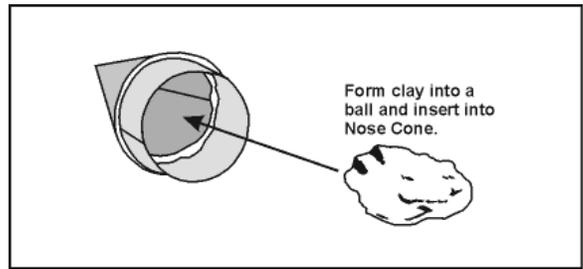

Figure 18
19. Taking the **Clay Weight**, roll it into an irregular ball and insert into the tip of the Nose Cone, as shown in **Figure 18**. **NOTE: Do NOT omit this added weight. This model rocket will NOT be stable without this added weight!** To verify the proper amount of nose weight, place the Nose Cone onto the Body Tube and balance it on your finger. The balance point (without motor or streamer) should be about $6\frac{1}{2}$ " from the bottom of the Body Tube (+/- $\frac{1}{2}$ "). Add or remove clay, as necessary, to achieve this balance point. Once you've found the proper balance point, apply a film of glue over the clay, securing it inside the Nose Cone.